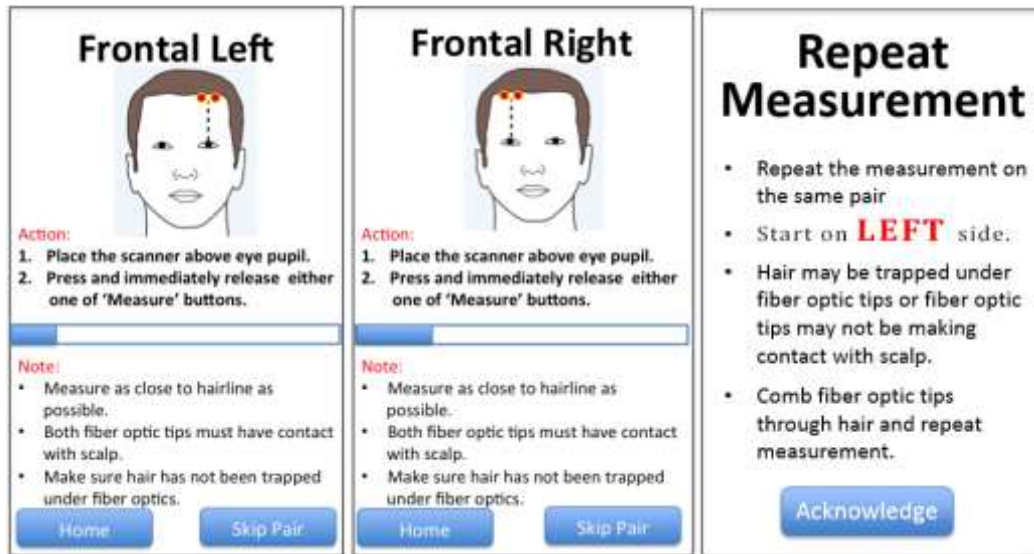

Figure 3-8: Guided Mode Measurement Windows
5. Guided Mode helps the user through the measurement process by displaying tutorial screens (Figure 3-8) and guiding the user to repeat measurements when a potential hematoma is detected. Guided mode is intended for novice users. Once the user is more experienced with the use of the Infrascanner, Independent Mode can be selected.